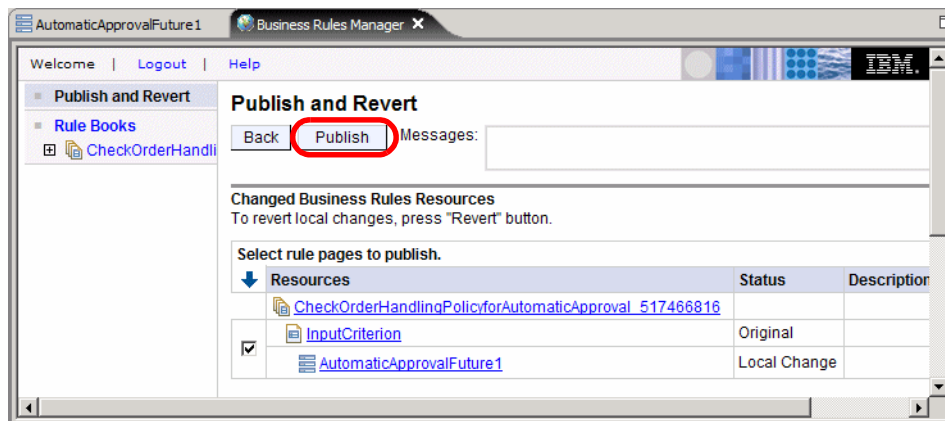

Figure 11-10 Publishing a business rule
- ▶ Select **Publish and Revert** (left side), then click **Publish** (Figure 11-10).